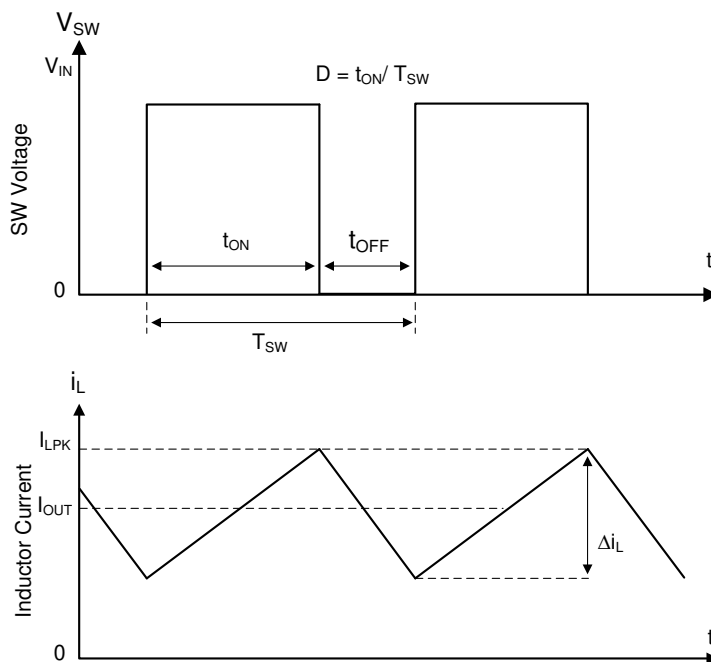

Figure 7-1. SW Node and Inductor Current Waveforms in Continuous Conduction Mode (CCM)
The following operating description of the LMR514x0-Q1 refers to Functional Block Diagram and to the waveforms in Figure 7-1. The LMR514x0-Q1 is a step-down synchronous buck converter with integrated high-side (HS) and low-side (LS) switches (synchronous rectifier). The LMR514x0-Q1 supplies a regulated output voltage by turning on the high-side and low-side NMOS switches with controlled duty cycle. During high-side switch ON time, the SW pin voltage swings up to approximately V_{IN} , and the inductor current, i_L , increases with linear slope $(V_{IN} - V_{OUT}) / L$. When the high-side switch is turned off by the control logic, the low-side switch is turned on after an anti-shoot-through dead time. Inductor current discharges through the low-side switch with a slope of $-V_{OUT} / L$. The control parameter of a buck converter is defined as Duty Cycle $D = t_{ON} / T_{SW}$, where t_{ON} is the high-side switch ON time and T_{SW} is the switching period. The converter control loop maintains a constant output voltage by adjusting the duty cycle D . In an ideal buck converter, where losses are ignored, D is proportional to the output voltage and inversely proportional to the input voltage: $D = V_{OUT} / V_{IN}$.